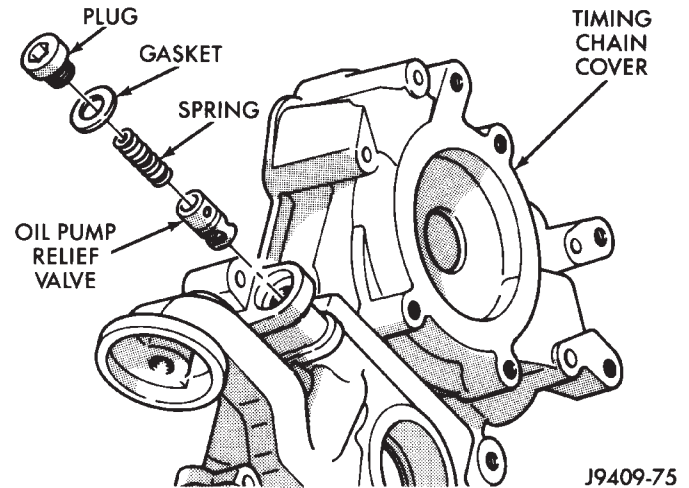

Fig. 51 Oil Pressure Relief Valve
(1) Remove the timing chain cover.
(2) Remove the relief valve plug, gasket, spring and valve (Fig. 51). Discard the gasket.